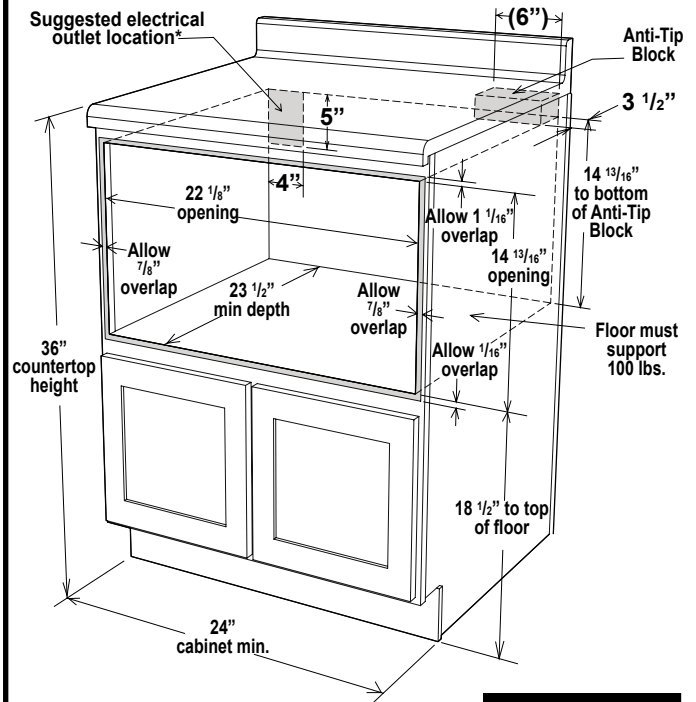
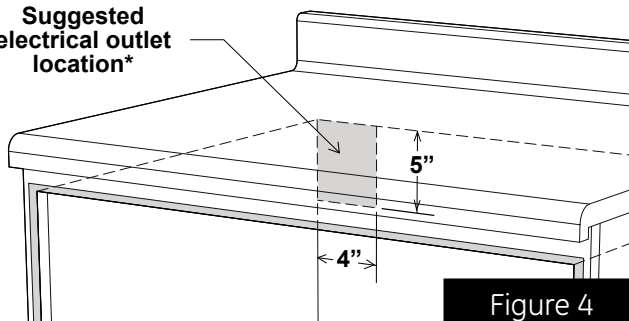

Figure 1
Figure 4
- Dimensions that are shown in Figure 1 (for 24") must be used. Given dimensions provide minimum clearance. Locate electrical outlet in the shaded area in the upper left-hand corner of the cutout. See Figure 4.
Figures 1 and 2 contain many drawer microwave measurements for reference when planning the drawer location.
To reduce the risk of tipping of the drawer, the Anti-Tip block must be properly installed located 14 13/16-inches above the floor on which the Drawer Microwave will sit. The anti-tip block must be provided and pre-installed by the purchaser of the product or builder before install can be done. The anti-tip block is not provided by installer. See Figures 1 and 2.